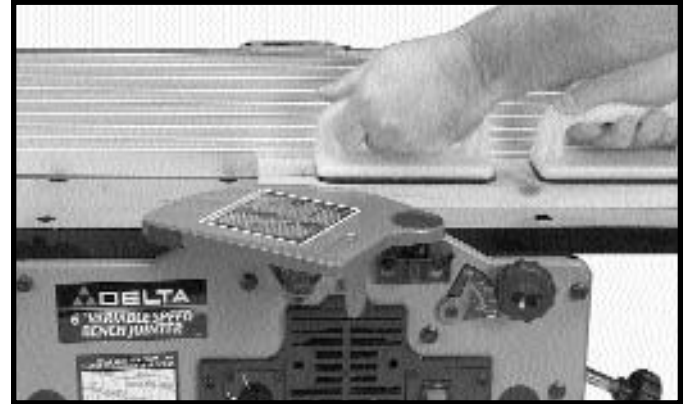

Fig. 3
2. **PLANING OPERATIONS** – Planing or surfacing are identical to the jointing operation except for the position of the workpiece. For planing, the major flat surface of the workpiece is placed on the infeed table of the jointer with the narrow edge of the workpiece against the fence, as shown in Fig. 3. The workpiece is moved from the infeed table, across the cutterhead to the outfeed table. Use push blocks when performing planing operations whenever possible.